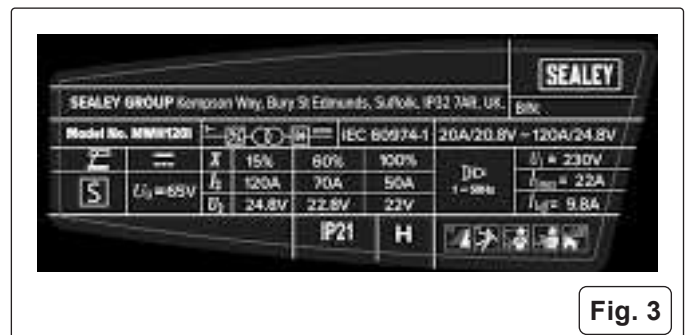

Fig. 3
- 6.1. The equipment should be connected to the mains supply according to these instructions. If interference occurs, it may be necessary to take additional precautions such as filtering of the mains supply. Consideration should also be given to shielding the supply cable of permanently installed equipment in metallic conduit or equivalent. This shielding should be connected to the power source so that good electrical contact is maintained between the conduit and the welding power source enclosure. (see fig.3).